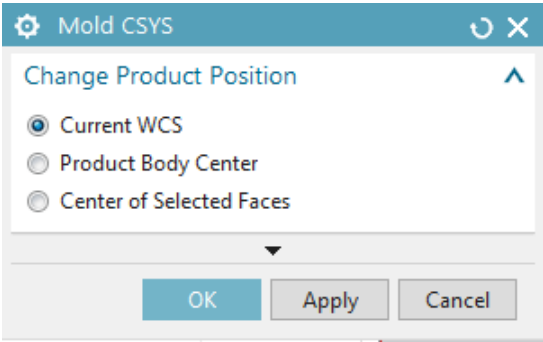

Figure 16-93 The *Mold CSYS* dialog box
- 1. Choose the **Mold CSYS** tool from the **Main** group of the **Mold Wizard** tab; the **Mold CSYS** dialog box is displayed, as shown in Figure 16-93. Also, you are prompted to double-click on WCS.